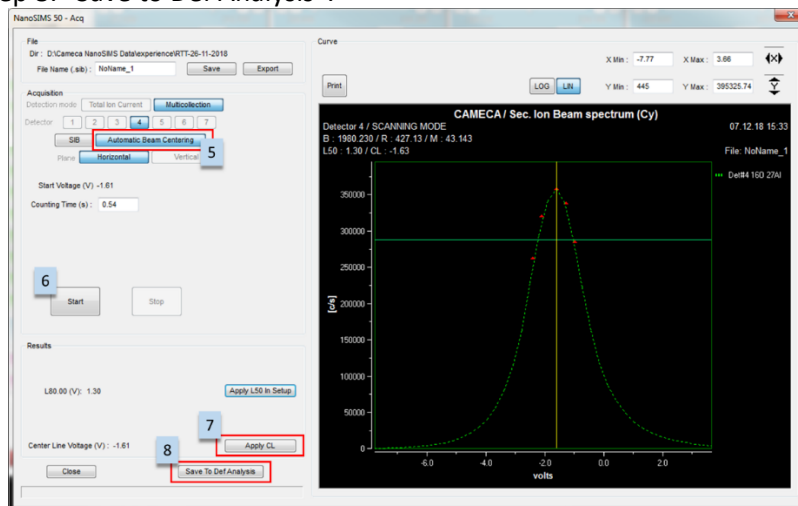

Figure 408: automatic Cy centering
- e. Step 5 of Figure 408: Activate the automated Auto beam centering with Cy for the upcoming acquisition by selecting **“Automatic Beam Centering”**